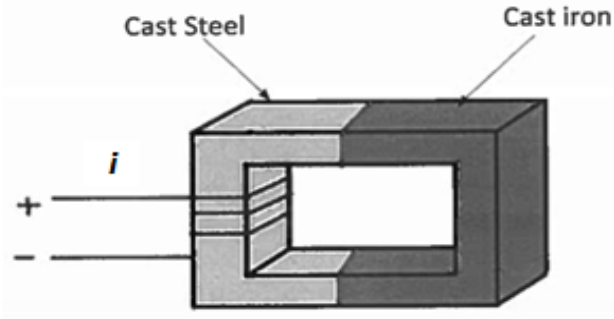

Figure 2
**Problem 2:** Consider a magnetic circuit as shown in Figure 2. The core of the circuit is composed of cast steel and cast iron. Each material has a mean length of 20 cm. The cross section area of the core is  $16 \text{ cm}^2$ . The coil has 350 turns and it carries a current of 1.2 A. The relative permeability of the cast steel is 800 and that of cast iron is 250. Determine the following: